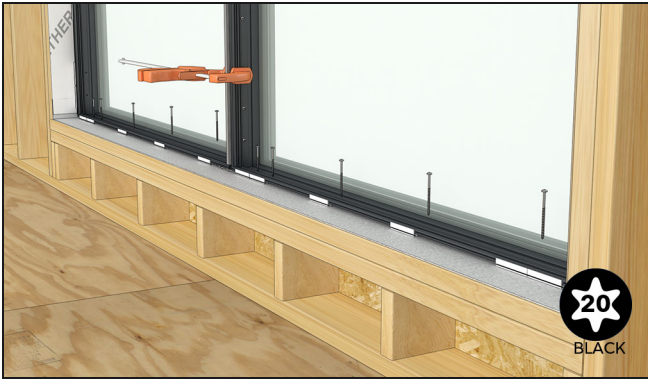

Figure 27
17. Making sure the second frame is aligned along the correct exterior plane, fasten the sill through pre-drilled holes in both frames. See Figure 27.